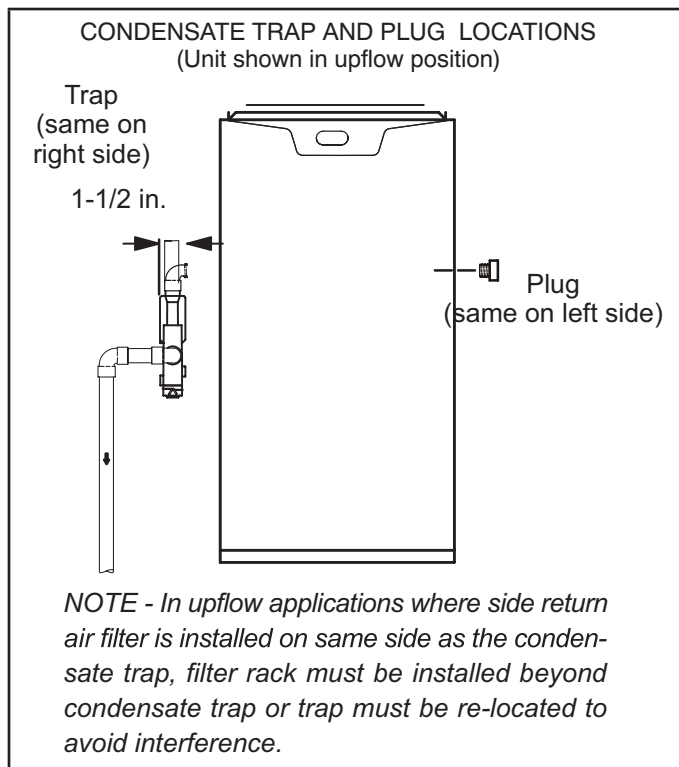
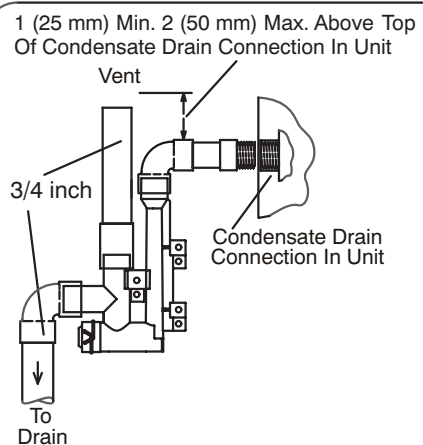

Figure 47
Figure 55
Refer to figures 47 and 49 for condensate trap locations. Figure 55 shows trap assembly using 1/2" PVC or 3/4" PVC.
- 2 - Use a large flat head screw driver or a 1/2" drive socket extension and remove plug (figure 47) from the cold end header box at the appropriate location on the side of the unit. Install provided 3/4 NPT street elbow fitting into cold end header box. Use Teflon tape or appropriate pipe dope.
- 3 - Install the cap over the clean out opening at the base of the trap. Secure with clamp. See figure 55.
- 4 - Install drain trap using appropriate PVC fittings, glue all joints. Glue the provided drain trap as shown in figure 55. Route the condensate line to an open drain. Condensate line must maintain a 1/4" downward slope from the furnace to the drain.